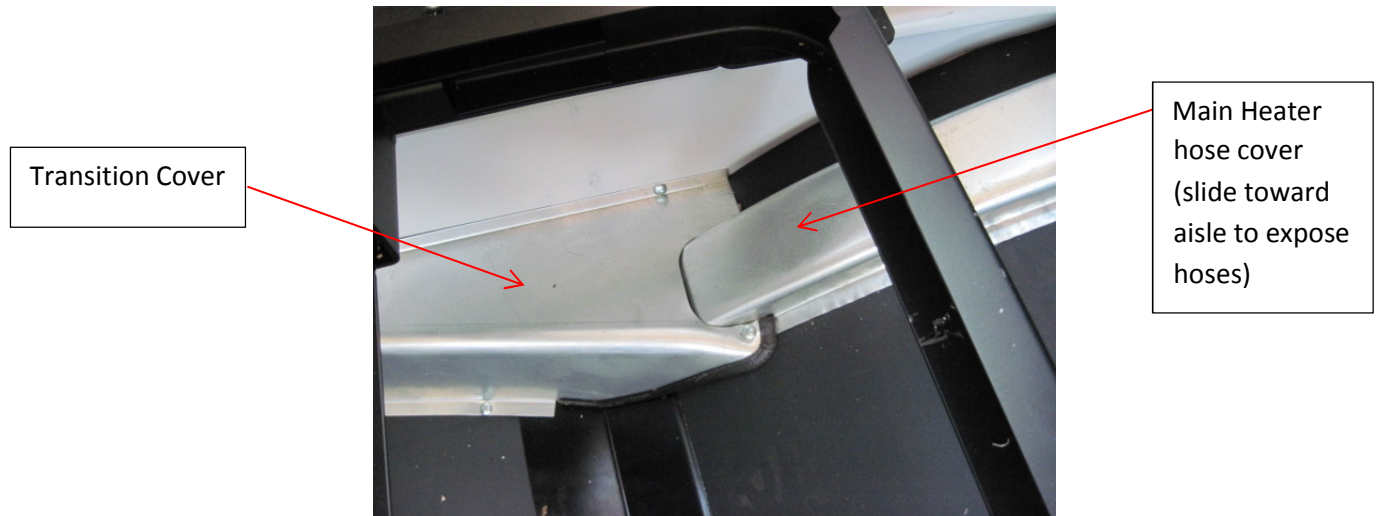

Figure 2
3. Once seat bottoms are removed, the metal covers are to be removed next. This requires removing the front and rear transition pieces using the screw gun. **Figure 2**